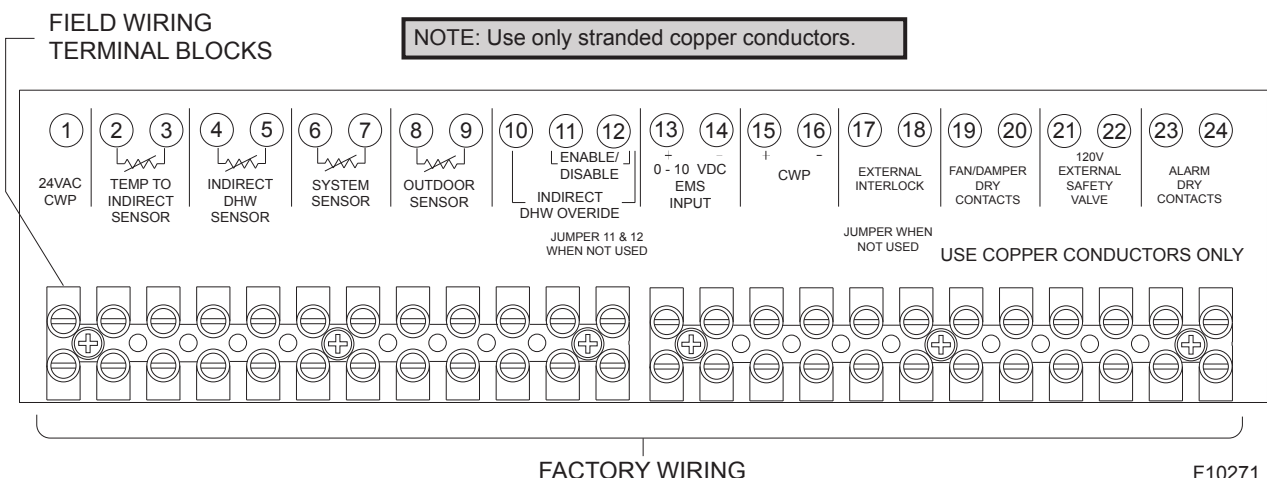

Figure 28. Low Voltage Field Wiring
Connect the Enable/Disable (terminals 11, 12) wiring to the field wiring terminals). See **Figure 28**. Alternately, any dry contact closure (including a remote thermostat) across these terminals will enable the XTherm unit to run. Caution should be used to ensure neither of the terminals becomes connected to ground.
2. Where using a System Sensor (S3), connect the sensor wires to the terminals marked SYSTEM SENSOR. See **Figure 28**.
2. If using an Outdoor Sensor (option B-32), connect the sensor wires to the terminals marked OUTDOOR SENSOR. See **Figure 28**. Caution should be used to ensure neither of these terminals becomes connected to ground.
2. To enable this remote control function, set DIP switch 5 to the UP position on the PIM. DIP switch 5 Toggles between an EMS (UP) signal or a demand signal from the VERSA (DOWN). DIP switch 2 on the PIM toggles between a Direct Drive (UP) input and a Target Temperature (DOWN) setpoint.
4. Connect an Energy Management system or other auxiliary control signal to the terminals marked 0-10V (+/-) on the field wiring terminals. See **Figure 28**. Caution should be used to ensure that the +0-10V connection does not create a short to ground.
3. Connect the system supply sensor to terminals 6 and 7 on the field wiring strip located on the Master boiler. See **Figure 28**.
4. Connect the Outdoor sensor (if used) to terminals 8 and 9 on the field wiring strip located on the Master boiler. See **Figure 28**.
5. Connect the Enable/Disable wiring to terminals 11 and 12 on the field wiring strip located on the Master boiler. See **Figure 28**. This connection must be provided through dry contacts closure.
relay that close during fault or lockout conditions, and the maximum voltage across the contacts is 30 VAC or 30 VDC. See the Field Wiring as shown in **Figure 28**.